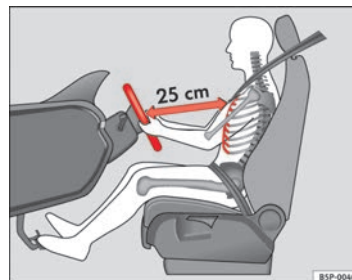

Fig. 136 Proper sitting position for driver
- Adjust the steering wheel until the correct position is set $\Rightarrow$ Fig. 136.
- Adjust the driver seat or steering wheel so that there is a distance of at least 25 cm between the steering wheel and your chest ⇒ Fig. 136. If you fail to observe the minimum distance, the airbag will not protect you. Risk of fatal injury.